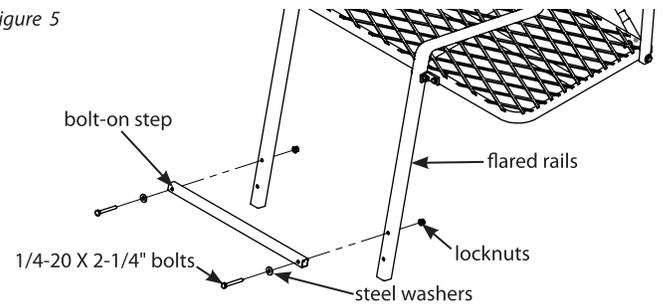

Figure 6
9. Attach the bolt-on step (410034) to the flared rails using (2) provided 1/4-20 x 2-1/4" bolts, steel washers and locknuts. **SEE FIGURE 6. You must now tighten all nut and bolt assemblies. Be sure not to over tighten or crush tubing when tightening.**